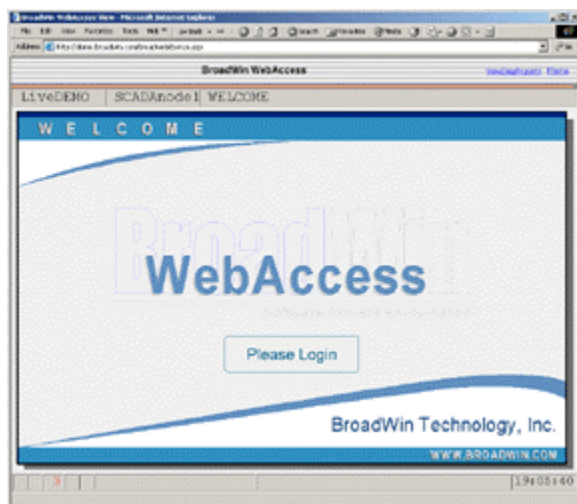

Figure 8.24 VIEW Login
2. The WebAccess **View Login Page** appears (Figure 8.24).
Click on "**Please Login**" (Figure 8.24).